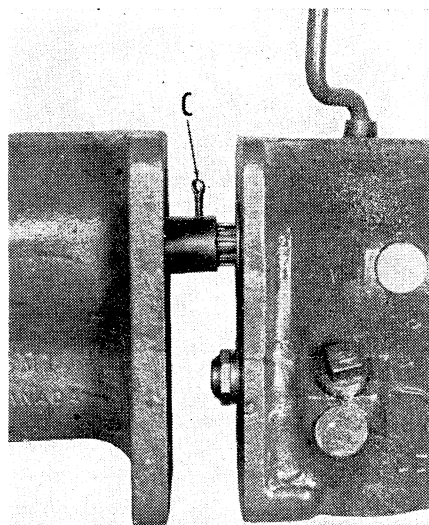

Fig. MH18—Exploded view of Pony clutch cover assembly showing its component parts.
43. **R & R CLUTCH.** Clutch can be removed after tractor is split as in preceding paragraph 42 or when engine is out. When removing or re-installing clutch on flywheel (Fig. MH18), turn alternate cover-to-flywheel cap screws evenly to prevent distortion of the clutch cover. Use a